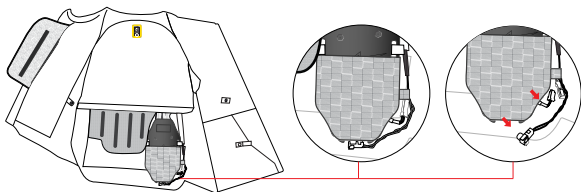

Figure 12
2. Access the Inflator Housing (4) and disconnect the Battery Connector (6) and the Inflator Squib Connector (5) (Figure 12).